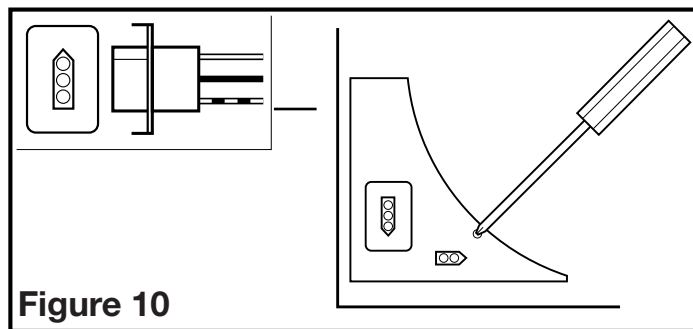

Figure 10
2. Reinstall the fan's wire compartment cover. Rotate the blower wheel by hand to ensure it spins freely. Plug the fan's quick connect motor cord into the receptacle. This cord will only fit one way into the receptacle (Figure 10).